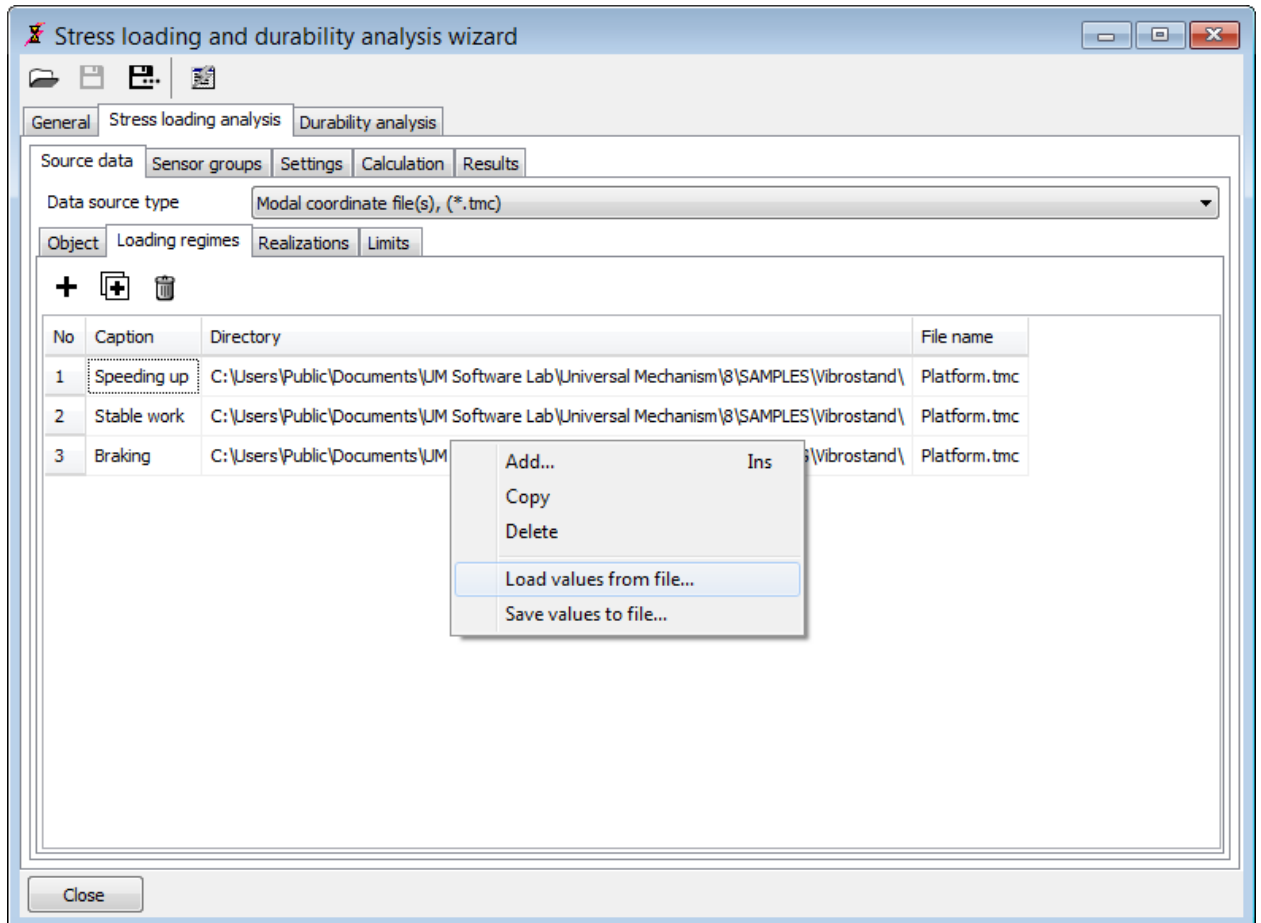

Figure 2.6. Load cases captions editing
1. Edit captions of load cases in the directly grid as it is shown in Figure 2.6 or load captions from the *LoadCasesCaptions.lcc* file using the context menu, see Figure 2.6.